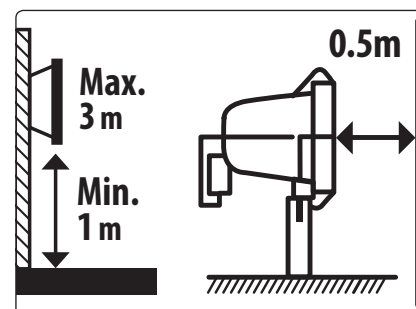
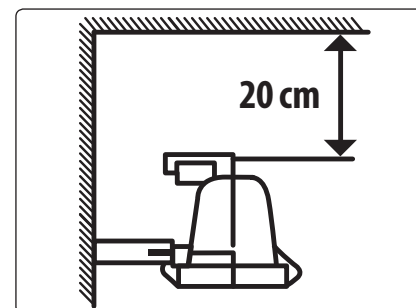

Fig. 2
Fig. 3
- Mount the lamp at a height of 1-3 m above the ground. The direct distance of the lamp from the illuminated object should be at least 0.5 m (Fig. 2). When the lamp is mounted in a corner then it must be at least 20 cm away from the ceiling (Fig. 3).